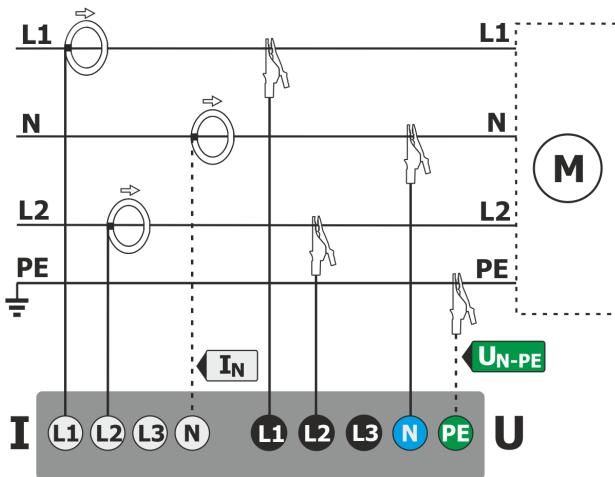

Fig. 59. Wiring diagram – split-phase.
- split-phase with split-winding of the transformer (Fig. 59),